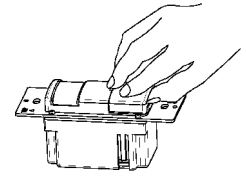

Figure 3
7. Remove the small cover plate. (Illustrated as Figure 3.)